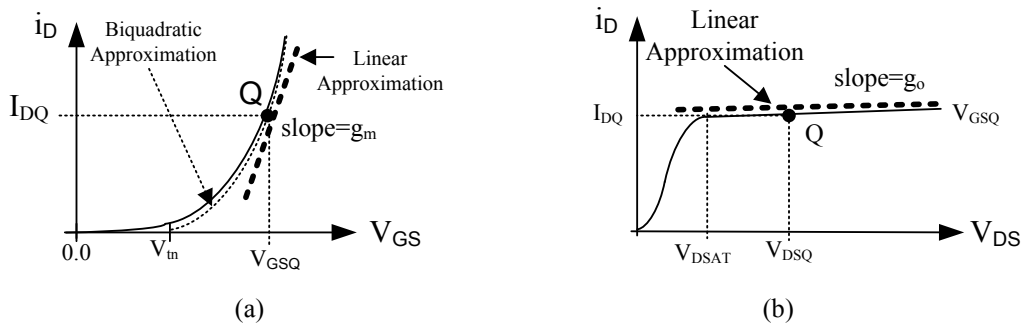

Fig.1 MOSFET characteristics: (a) input and (b) output.
The objective of this laboratory is to characterize and bias the MOSFET. A MOSFET can be characterized by several parameters, such as  $\beta$  and  $V_t$ . Fig. 1(a) shows the output and transconductance characteristics of an n-channel MOSFET and illustrates how  $\beta_n$  and  $V_{tn}$  characterize the MOSFET. The large signal model for the n-channel MOSFET is given as follows:
For a given  $V_{GSQ}$ , the drain-source voltage can also be swept leading to the transistor's output characteristics shown in Fig. 1(b). The slope of the curve determines the transistor's output conductance, obtained as
2. To find  $V_{tn}$  and  $\beta_n$ , sweep  $V_{GS}$  from 0 to 5 V using increments of 1 mV with a nested sweep of  $V_{DS}$  from 3 to 5 V using increments of 0.5V. This will generate a series of  $I_D$ - $V_{GS}$  characteristic plots similar to the one in Fig. 1(a). Use these plots to find the approximate value  $V_{tn}$  and  $\beta_n$ .
4. Using the same setup as in step 2. sweep  $V_{DS}$  from 0 to 5 V using increments of 1 mV with a nested sweep of  $V_{GS}$  from 1 to 5 V using increments of 0.5 V. This will generate a series of  $I_D$ - $V_{DS}$  characteristic plots similar to the one in Fig. 1(b). Use these plots to find an approximate value for  $\lambda_n$ .